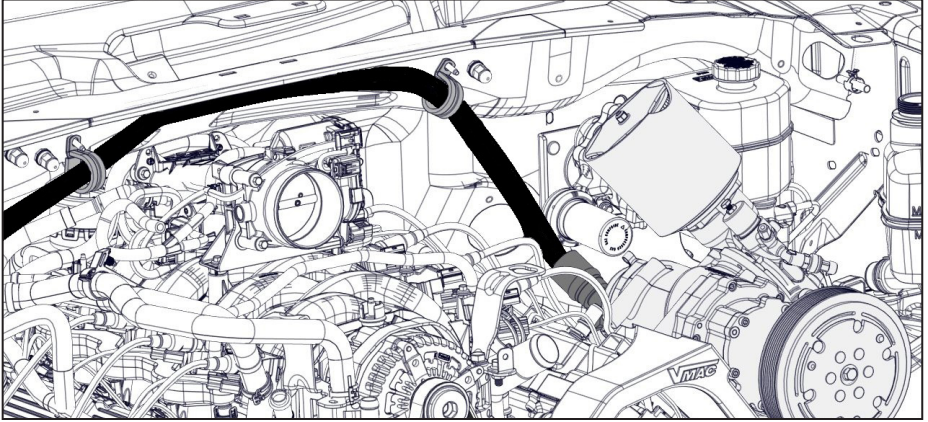

Figure 38 — Route discharge hose
- ☐ Route the 1 in discharge hose to the firewall, then toward the passenger side of the vehicle. Ensuring there is adequate slack to accommodate for engine movement, secure the 1 in hose to the firewall with the supplied P-clips (Figure 38).